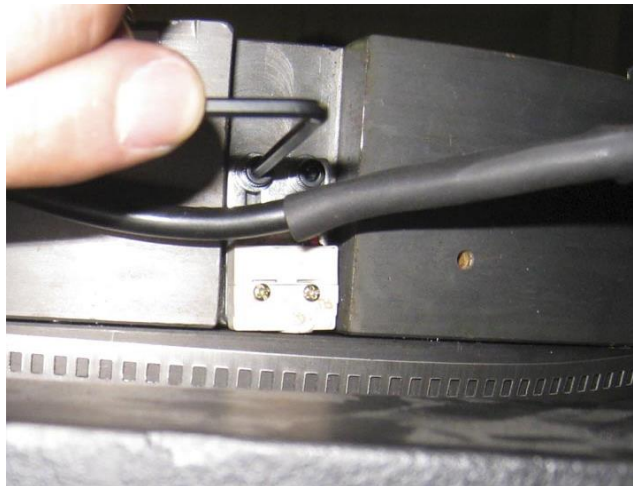

Figure 29: Reinstall brake switch and bracket
4. Install the switch and bracket to the brake body but do not tighten the bolts. See Figure 29.